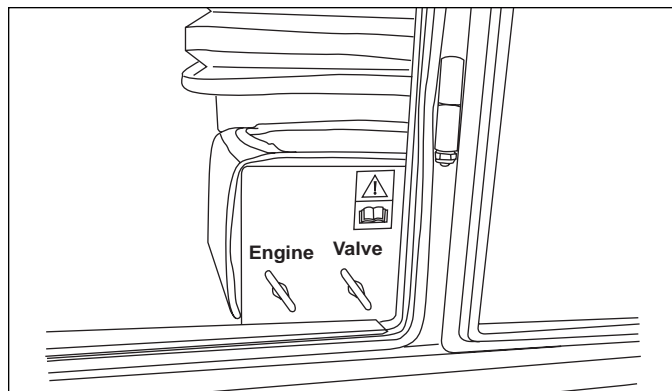
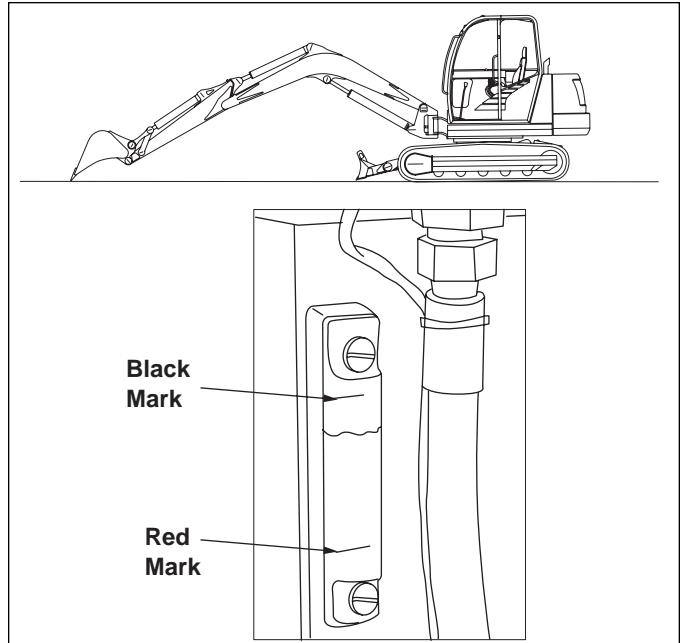

Figure 4-1. Engine Cover Latch Lever
Figure 4-12. Checking Hydraulic Oil Level
2. Pull the engine cover latch lever (Figure 4-1) and raise the engine cover.
1. The air cleaner is located under the valve cover. Pull the valve cover latch lever (Figure 4-1) and raise the valve cover.
1. Pull the engine cover latch lever (Figure 4-1) and raise the engine cover.
The battery is located under the valve cover. To access the battery, pull the valve cover latch lever (Figure 4-1) and open the valve cover.
2. Pull the valve cover latch lever (Figure 4-1) and open the valve cover.
2. Fully extend the bucket and boom. Lower bucket and dozer blade to the ground (Figure 4-12). Turn off the machine.
3. Pull the valve cover latch lever (Figure 4-1) and open the valve cover to expose the hydraulic oil level indicator (Figure 4-12).
4. Check the hydraulic oil level indicator (Figure 4-12). Oil level should be between black and red marks on sight glass. If hydraulic oil is required, proceed to step 5.
7. Add hydraulic oil until oil level is between red and black marks on indicator (Figure 4-12).
8. Fill tank with hydraulic oil until oil level is between red and black marks on indicator (Figure 4-12).